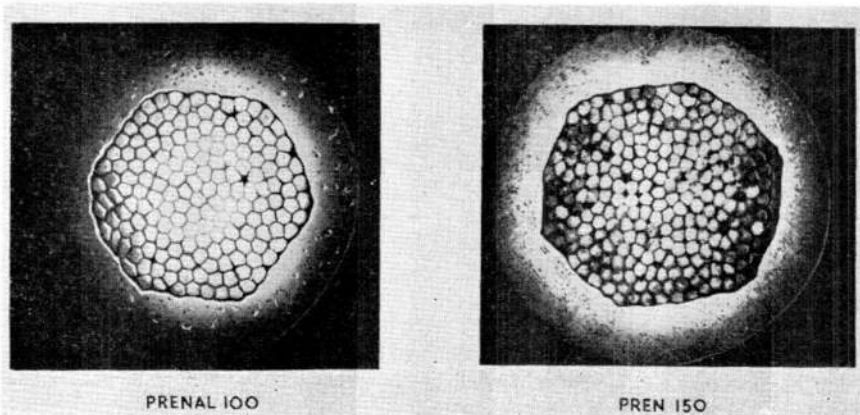

Fig. 1. Cross-section of hexagon crimped connection
7. In the confined type of crimp, the barrel is totally enclosed during the crimping operation, which compresses the barrel and conductor almost solid. Ideally the confined crimp should be round, but in practice a hexagonal shape has been found to yield excellent results, at the same time lending itself conveniently to the manufacture of crimping dies. Moreover it is a form of crimp uniformly applicable to large and small cable sizes, and to aluminium as well as copper conductors. A photomicrograph of a cross-section of a hexagon crimped connection is shown in fig. 1. To facilitate inspection of the crimped joint, the barrel is frequently open at the tongue end or provided with an inspection hole through which the sufficient insertion of the conductor into the crimping barrel may be visually verified.